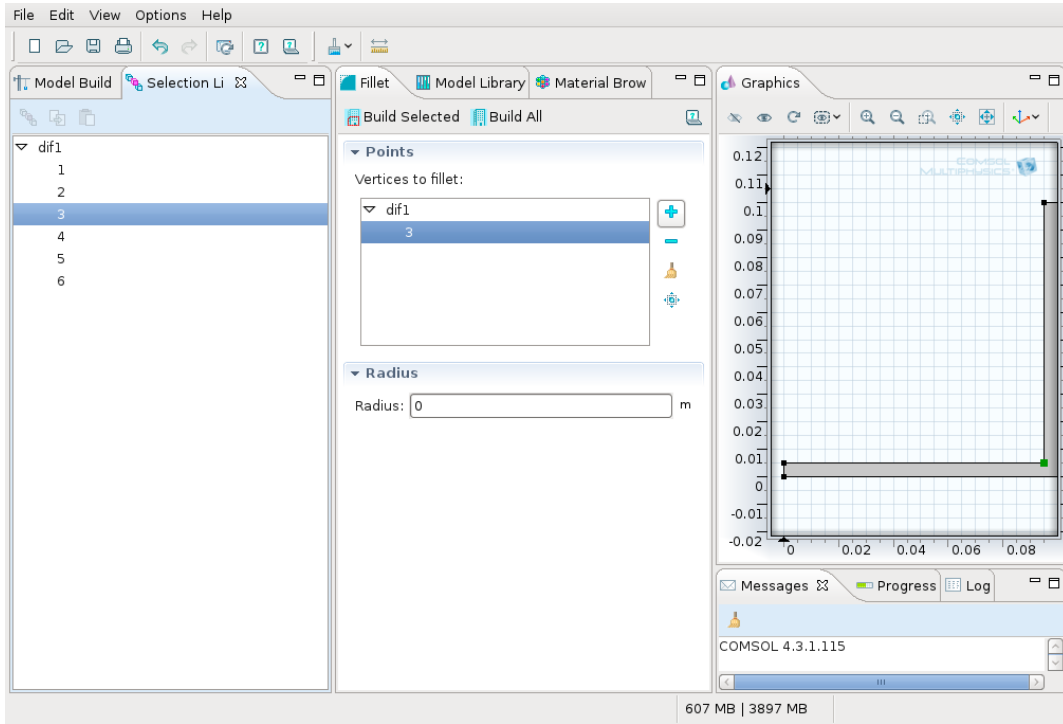

Figure 16: Selecting the point from the selection list.
- **View** → **Selection List** → **3**, click the **Add Selection** button next to the *Vertices to fillet* window or right click in the **Selection List** (Fig. 16).